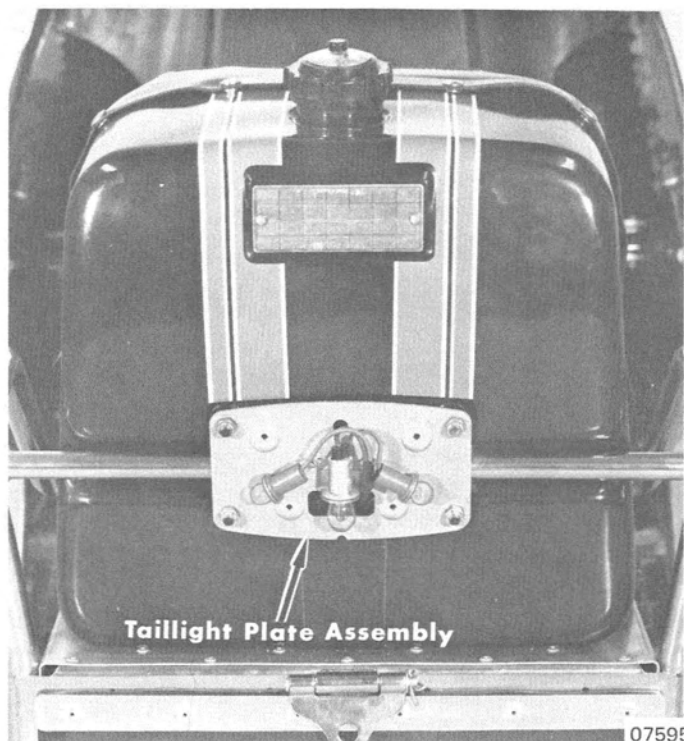

Figure 6. Taillight Plate Assembly
5. Remove 4 nuts and pull taillight plate assembly away from fuel tank. (Figure 6)
5. Secure taillight plate assembly to fuel tank. (Figure 6)